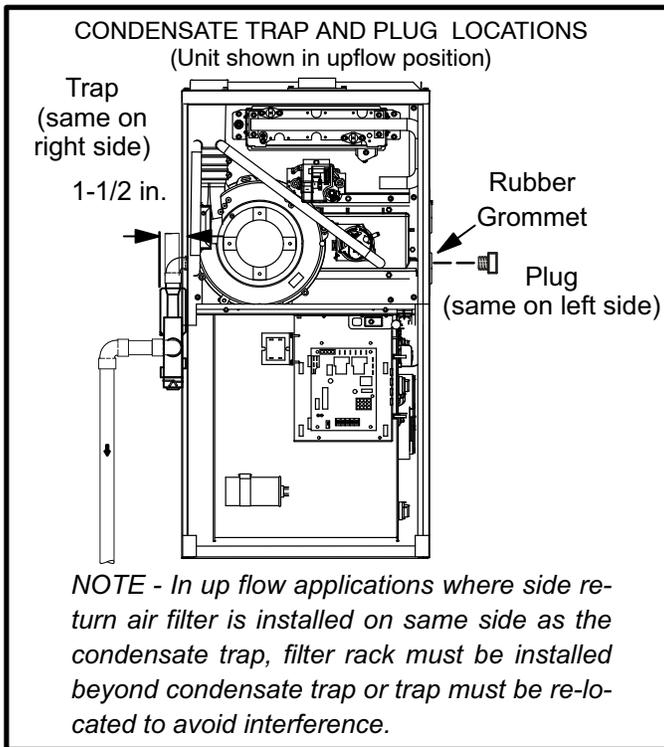
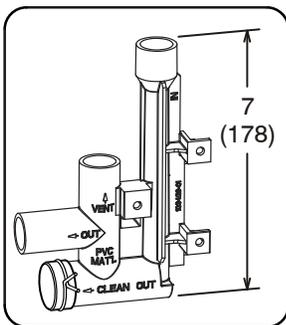

FIGURE 45
FIGURE 53
This unit is designed for either right- or left-side exit of condensate piping in up flow applications. In horizontal applications, the condensate trap must extend below the unit. An 8" service clearance is required for the condensate trap. Refer to figures 45 and 47 for condensate trap locations. Figure 53 shows trap assembly using 1/2" PVC or 3/4" PVC.
- 2 - Use a large flat head screw driver or a 1/2" drive socket extension and remove plug (figure 45) from the cold end header box at the appropriate location on the side of the unit. Install provided 3/4 NPT street elbow fitting into cold end header box. Use Teflon tape or appropriate pipe dope.
- 3 - Install the cap over the clean out opening at the base of the trap. Secure with clamp. See figure 53.
- 4 - Install drain trap using appropriate PVC fittings, glue all joints. Glue the provided drain trap as shown in figure 53. Route the condensate line to an open drain. Condensate line must maintain a 1/4" downward slope from the furnace to the drain.